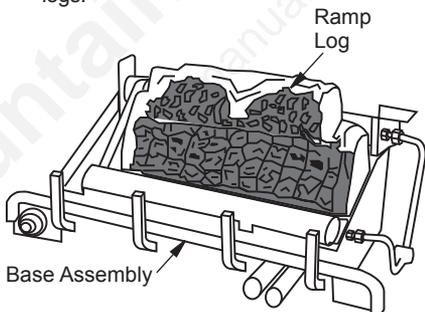

Figure 24 - Installing Log Set
1. Place fiber ramp-log in center on chassis as shown in Figure 24. The fiber ramp-log can be identified by its shape and much lighter weight when compared to the other logs.